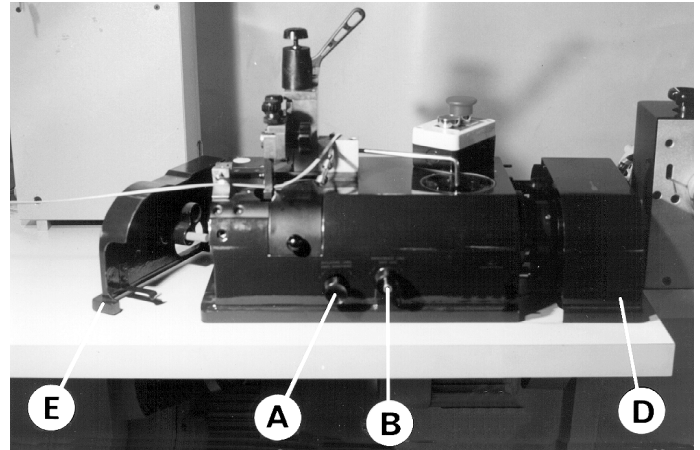

Fig. 5 - Knobs and protection guards
To adjust the position, turn the knob (Fig. 5 - B) in an anticlockwise direction and the blade will approach the foot. If the blade is set too close to the foot this can lead to blade edge damage, and if it is too far, skiving results will not be even.
- Move in the grindstone towards the blade, turning the knob (Fig. 5 - A) in an anticlockwise direction, and stop turning when the grindstone is in slight contact with the blade. Excessive pressure on the grindstone can bend or overheat the blade and will wear out the grindstone control belt very rapidly.
- To arrest the sharpening action, turn the knob in an anticlockwise direction (Fig. 5 - A) to move the grindstone away from the blade.
While the blade is being sharpened, if the usual noise made by the grindstone on the blade is not heard, move the knob (Fig. 5 - B) to bring the blade into the correct position, and if necessary, move the knob (Fig. 5 - A) to move the grindstone so it is in contact with the blade.
Open the small guard (Fig. 5 - E) towards the left and remove by pulling it upwards.
Remove the guard (Fig. 5 - D) by first unscrewing the block screw on the right hand side.
Turn the knob (Fig. 5 - B) in a clockwise direction (using the handle for this purpose) until it is stopped to bring the blade support back to its initial position.
- Turn the knob (Fig. 5- A) towards the right, then mount a new stone.
Remove the right hand protection guard from the head (Fig. 5 - D) and remove the worn belt (type Z33).
Remove the right hand protection guard from the head (Fig. 5 - D) and remove the worn motor belt .